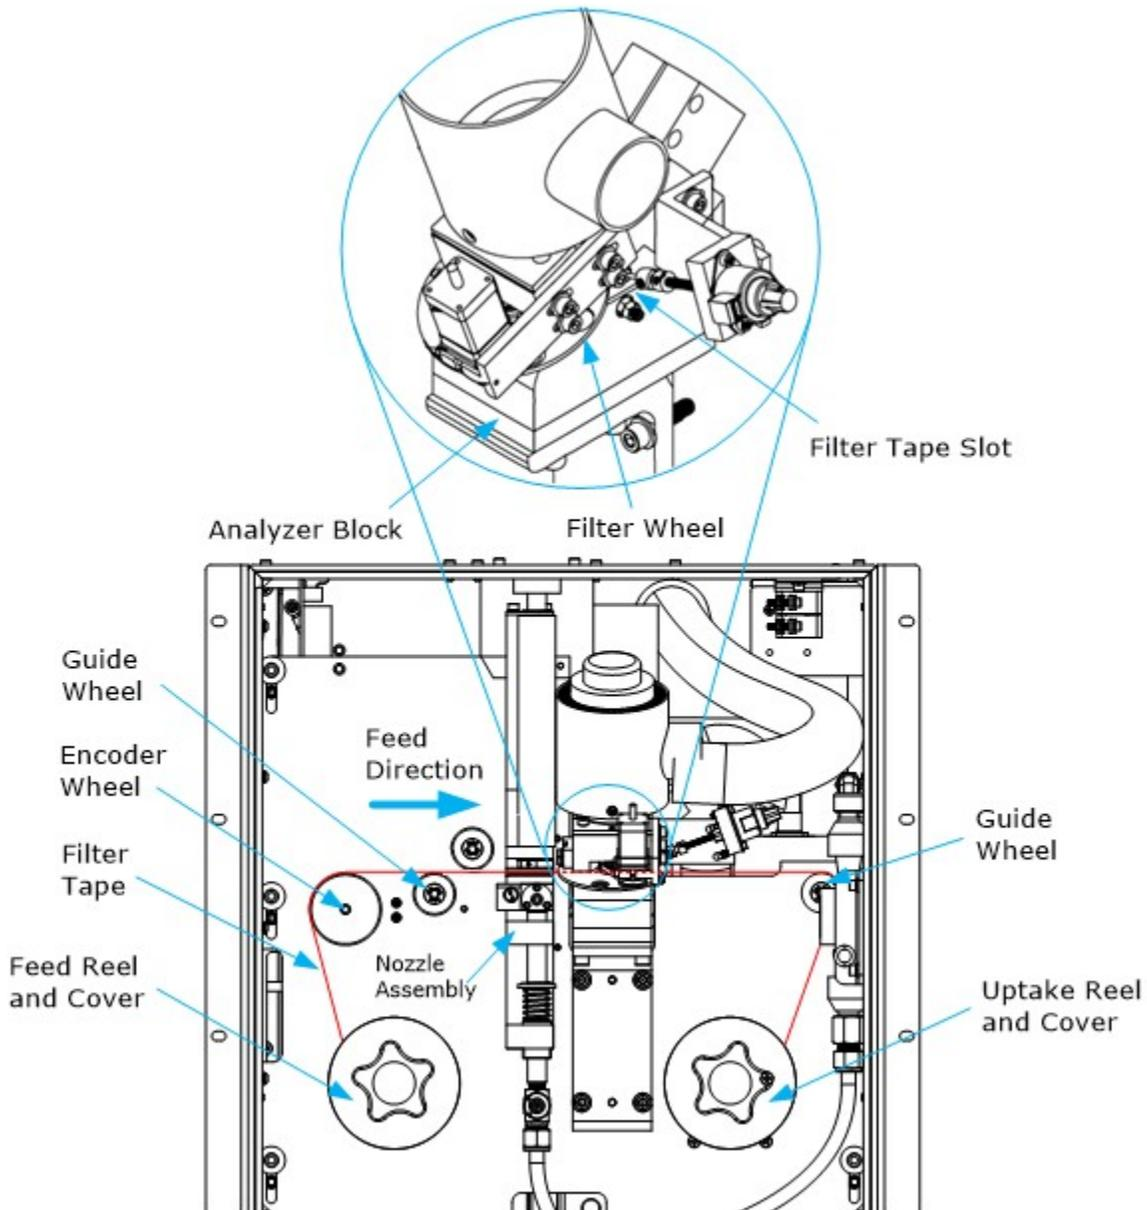

Figure 11.2 Schematic of filter wheel assembly for changing filter tape.
- c. Remove the Feed and Uptake reel covers of the filter tape (**Figure 11.2**).
- g. Place the filter tape from left to right along the filter wheel assembly shown in **Figure 11.2** and in the order listed below: